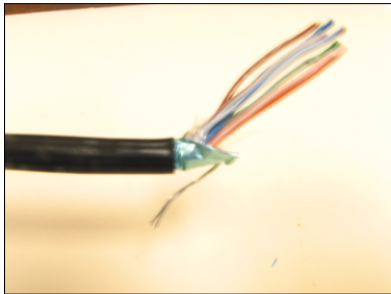

Figure A-5 Preparing the wires for insertion in connector sleeve
Step 2 Untwist the wire pairs and separate them. Fold the stranded wire back over the foil. See Figure A-5 below for a picture of wires prepared for insertion into the connector sleeve.